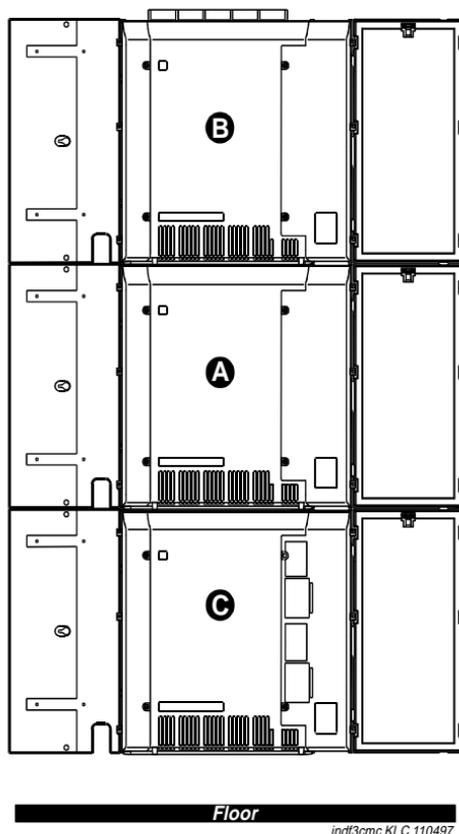

Figure 47. Typical Compact Modular Cabinet Installation (Front)
installs in the middle position, the second cabinet (B) installs on the top, and the third cabinet (C) installs on the bottom. See Figure 47.